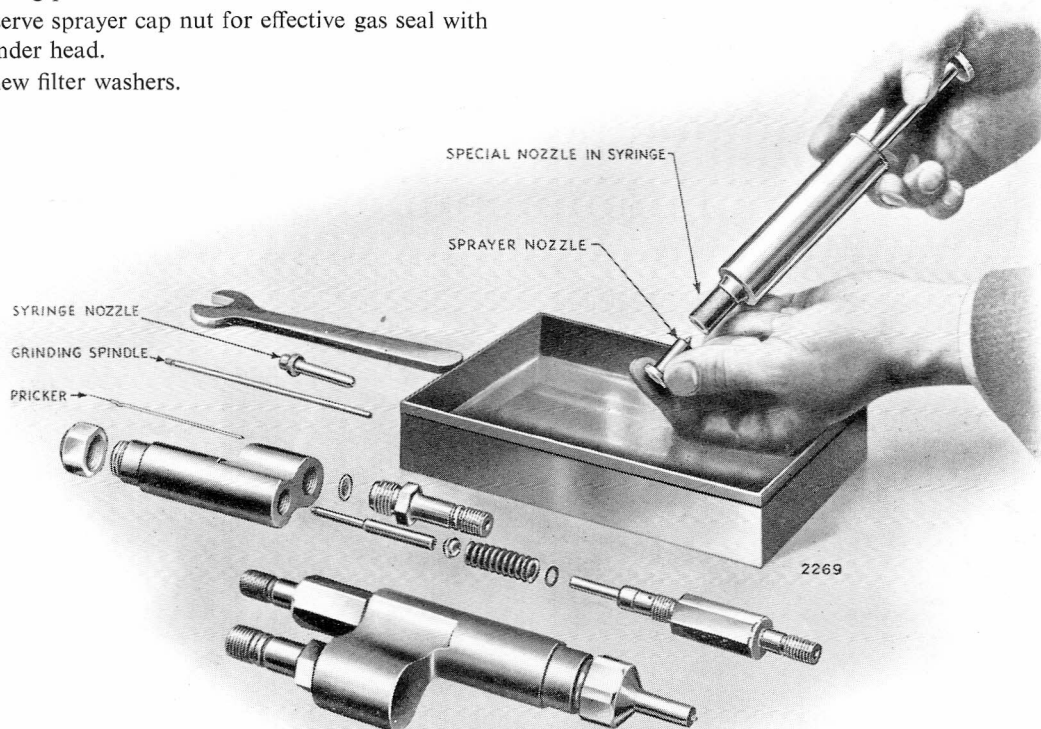

Fig. 41.
53. TO CLEAN SPRAYER NOZZLE. Cut a piece of wood or cane to approximately the same shape as the sprayer valve tip and rotate same in bore on seat of nozzle, using metal polish or 600 grit Carborundum powder. Prick out the jet holes and finally wash out by forcing paraffin from outside to inside of nozzle. Supplied with the engine is a syringe complete with special fitting made to receive the nozzle, which enables paraffin to be forced through the jet holes in a direction **opposite** to that obtaining when the engine is in operation. See Fig. 41.